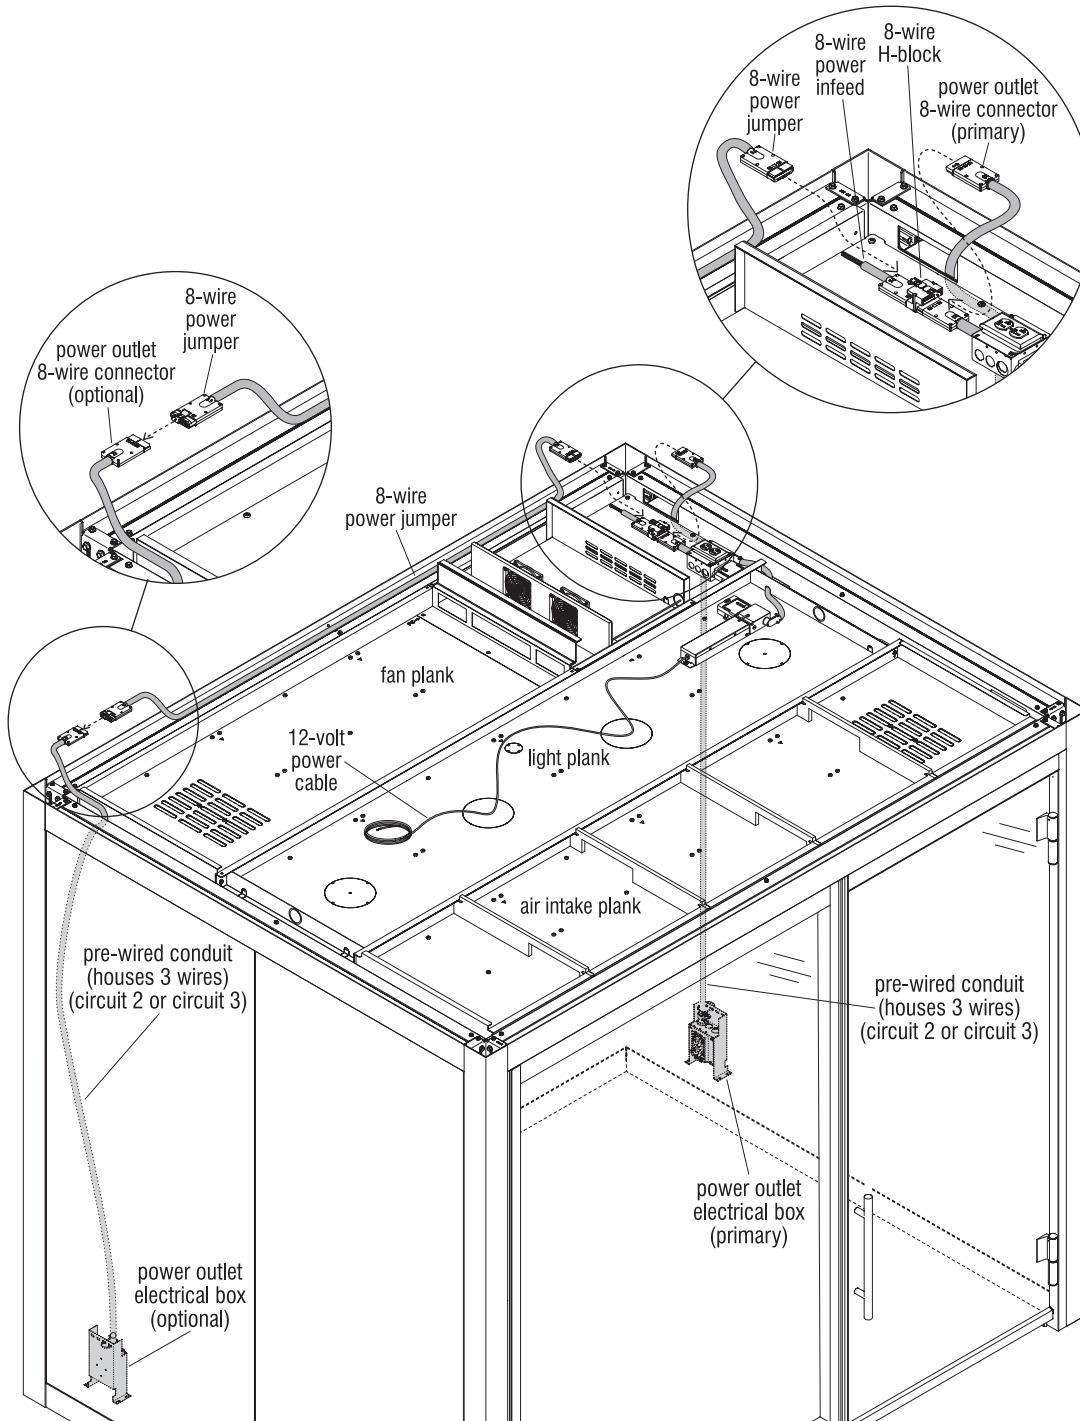

Figure 2
6. Assure that the non-insulated panel shell was previously removed from Evoke panel(s) with a power outlet (if not, see page 40). At the wall frame with the primary power outlet and panel removed, locate the 8-wire modular connector end of the primary power outlet. Route the modular connector and flexible conduit up through the horizontal panel frame cut-out and through the top beam side cut-out, then plug the modular connector into the 8-wire H-block (Figure 2).
7. If your room configuration has a second, optional power outlet in a panel at the opposite side of the room, a 10-foot long 8-wire power jumper is required. Locate the 8-wire modular connector end of the optional power outlet. Route the modular connector and flexible conduit up through the horizontal panel frame cut-out and through the top beam side cut-out. Plug the modular connector from the power outlet into a 10-foot 8-wire power jumper, run the 8-wire power jumper along the top of the perimeter beam, then plug the modular connector into the 8-wire H-block (Figure 2).